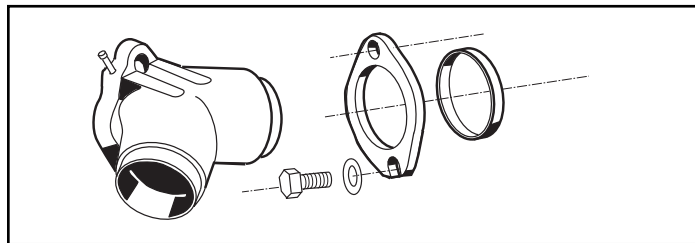

Figure 3
- H. Install intake manifold using provided mounting flanges and O-ring seals. Be sure O-rings and flanges are assembled in correct sequence. **See Figure 3.**